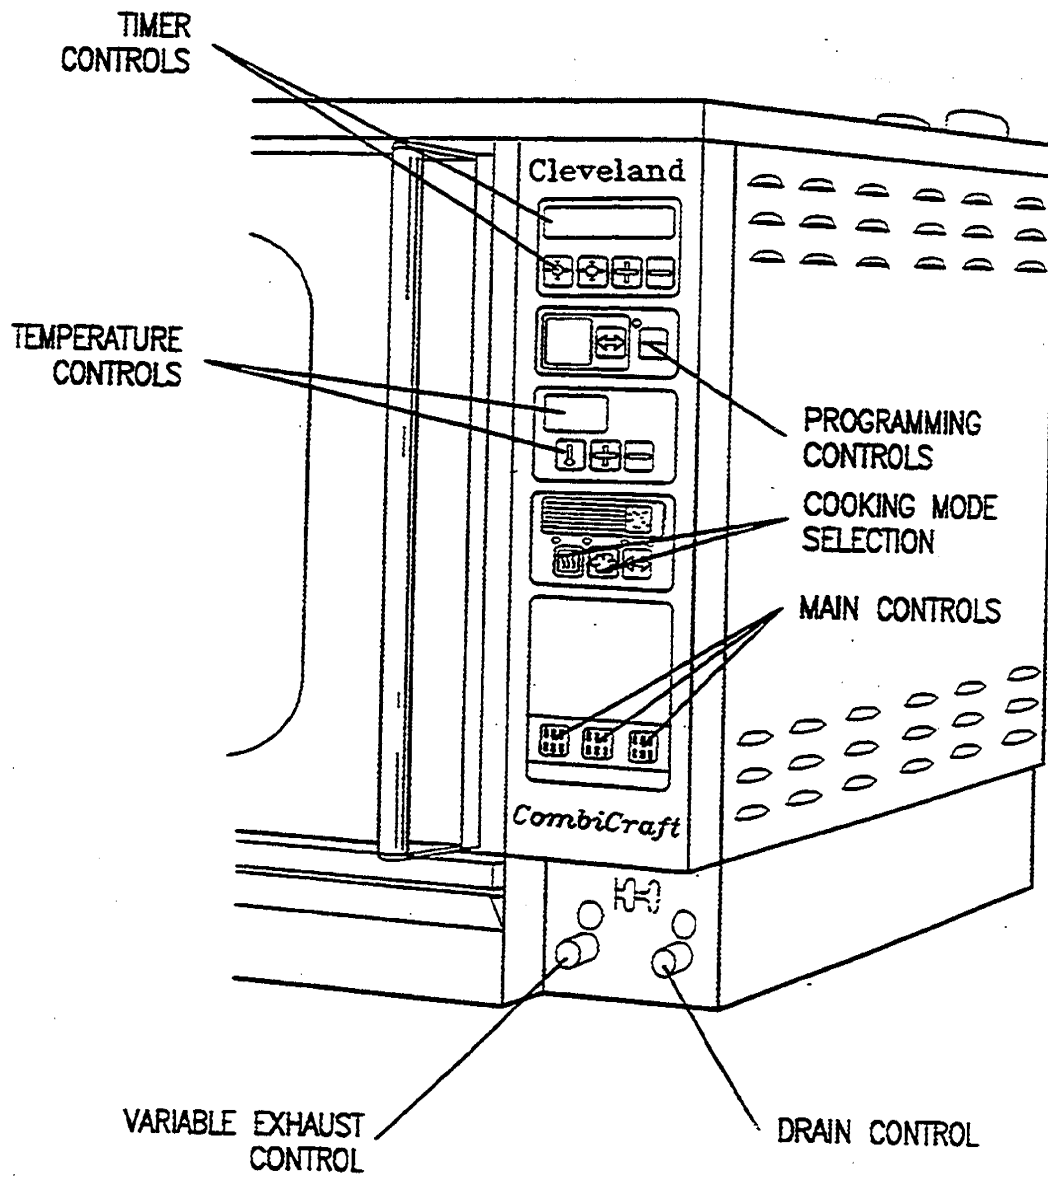
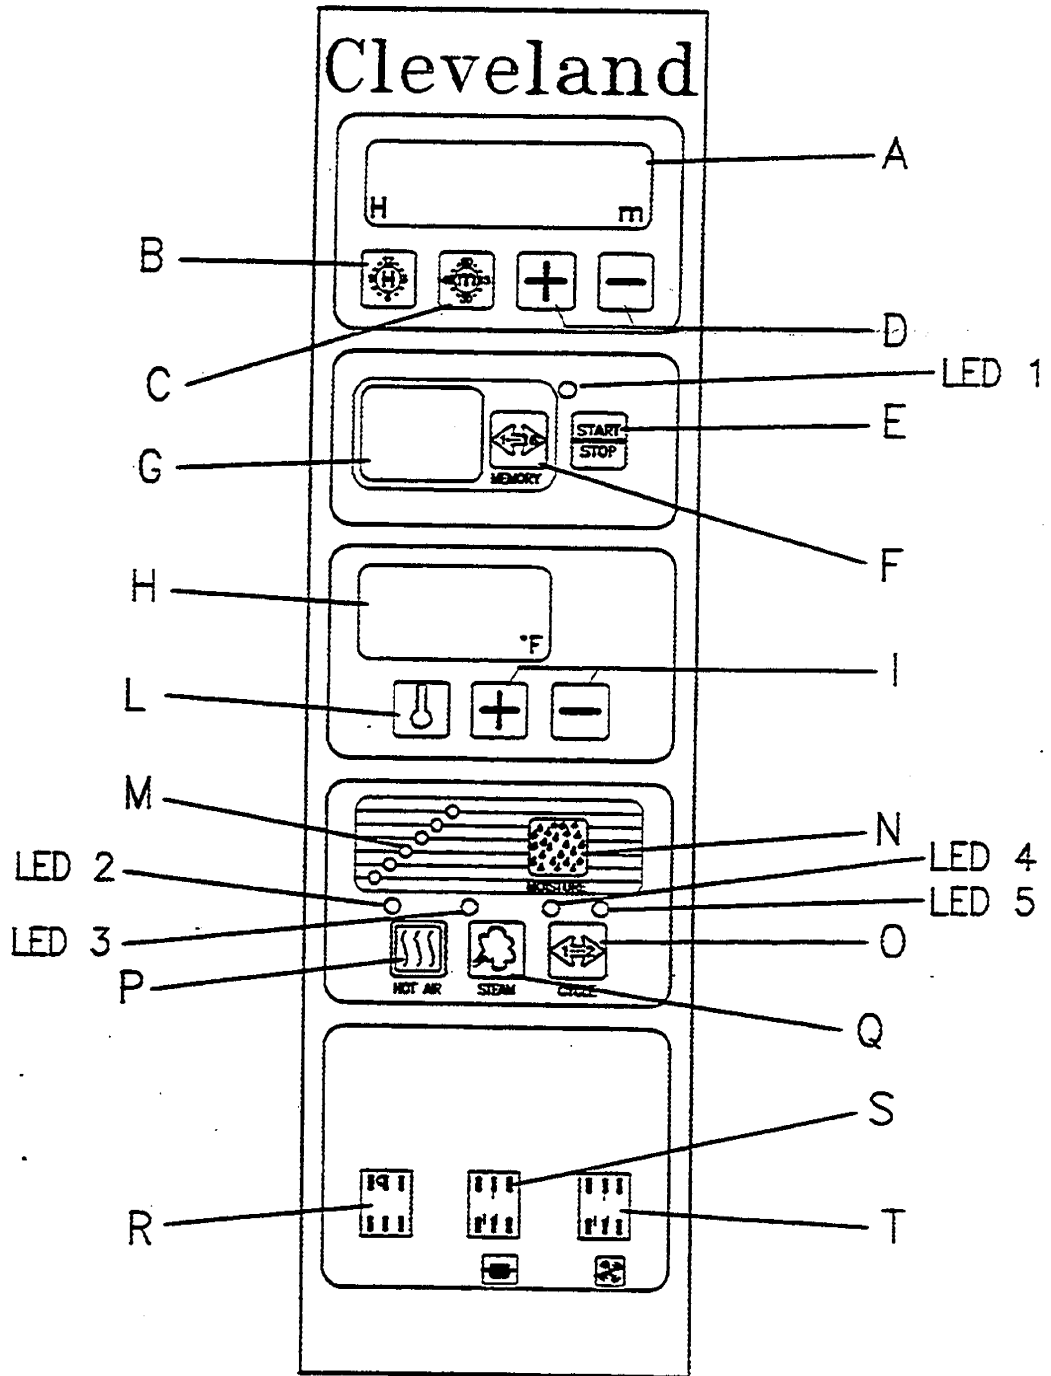

Figure 3-1. CombiCraft Controls
Figure 3-2. CombiCraft Control Panel
Pressing the steam generator preheating switch (S, Figure 3-2) puts the unit into standby. This fills the generator with water and preheats the water to 185°F. This can be done whether the oven is on or off. This will save the operator time; when steaming is required, the unit is ready. Standby can be used as an energy saving feature when steam is not required for a long period of time. No generator elements or water are used during standby.
The operator may wish to cool down the oven compartment quickly. For example, bread was baked at 375° and now steaming at 212° is required. To cool down the oven compartment, open the oven/steamer door and turn on the fan by pressing the fan operating control (T, Figure 3-2).
When the variable exhaust control (Figure 3-1) is turned on, a nozzle sprays cold water into the drain system. This condenses the steam and creates a slight draw to pull out fumes and exhausts.
Timer, Programming, Temperature Controls, Cooking Mode Selection, Main Controls, and the variable exhaust and drain controls are shown in Figure 3-1. Figure 3-2 illustrates the control panel in detail. The letters used to identify components in Figure 3-2 are used throughout this manual when a component of the control panel is referenced. There is an optional meat probe available for the CombiCraft Oven/Steamer. Operation of the meat probe is described on page 49.
Refer to Figure 3-2 for location of panel controls.
2. Press the OFF (top) end of the ON/OFF switch (R, Figure 3-2).
1. Start the unit by pressing the bottom end of the ON/OFF switch (R in Figure 3-2). Unit is now energized.
3. Turn on steam standby by pressing the steam generator preheating switch (S, Figure 3-2). The steam generator fills with water and heats to standby temperature (185°F).
4. If a number shows in the program display (G), press and hold the program select button (F) until the program display (G) is blank.
5. Set the desired cooking time. Press the hour button (B) and either the increase or decrease time button (D) until the required time displays. Press the minute button (C) and either the up or down button (D) until the required time displays. Time can be set from 1 minute up to 59 hours and 59 minutes.
6. Set the desired cooking temperature. Press the temperature button (L) and either the increase or decrease temperature button (I) until the required temperature displays. Temperature can be set up to 510°F.
- the convection button (P)
- the steam button (Q)
8. During convection cooking, it is possible to inject a quantity of moisture into the cooking chamber by pressing the moisture button (N). Each LED lit on the moisture display (M) is equal to 10 seconds of steam injection per minute (6 LEDs = 60 seconds = continuous steam injection).
9. Press the START/STOP button (E) to start the cycle. LED 1 lit means that cooking has started.
10. The cycle can be temporarily stopped and restarted by pressing the START/STOP button (E). When START/STOP is pressed, all cooking and the timer countdown stop. The timer display shows the remaining time. When START/STOP is pressed again, cooking starts and the timer resumes counting down from where it was stopped.
1. Start the unit by pressing the bottom end of the ON/OFF switch (R in Figure 3-2).
2. Turn on steam standby by pressing the steam generator preheating switch (S). The steam generator fills with water and heats to standby temperature (185°F).
3. Press the program select button (F) until the required program number displays in the program display (G).
- a. The selected time for the first cooking cycle will show on the timer display (A).
- b. The temperature display (H) will show the temperature inside the CombiCraft. To display the preselected temperature of the program, press the temperature button (L).
4. Press the START/STOP button (E) to start the first cycle. LED 1 lit means that the program has started.
- a. The 1st Cycle LED (4) will light showing that the first cycle is running.
- b. After the first cycle has been completed, the second cycle will begin automatically. Time and temperature for the second cycle will display and the 2nd Cycle LED (5) will light.
5. Either cycle can be temporarily stopped and restarted by pressing the START/STOP button (E). When START/STOP is pressed, all cooking and the timer countdown stop. The timer display shows the remaining time. When START/STOP is pressed again, cooking starts and the timer resumes counting down from where it was stopped.